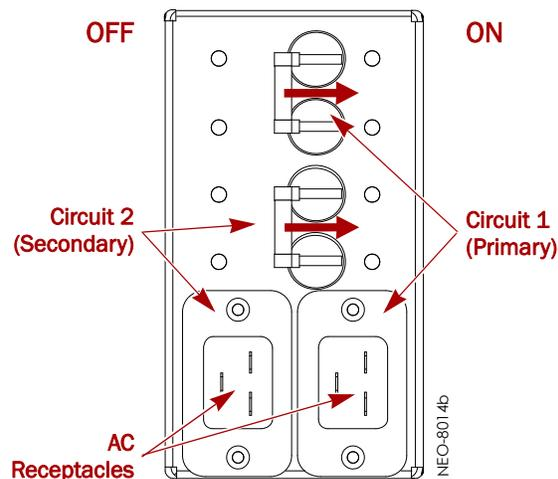

Figure 3-4: NEO 8000e Circuit Breakers (OFF Position)
2. Connect the power cords to the two **AC receptacles** at the bottom of the circuit breaker box (Figure 3-4).